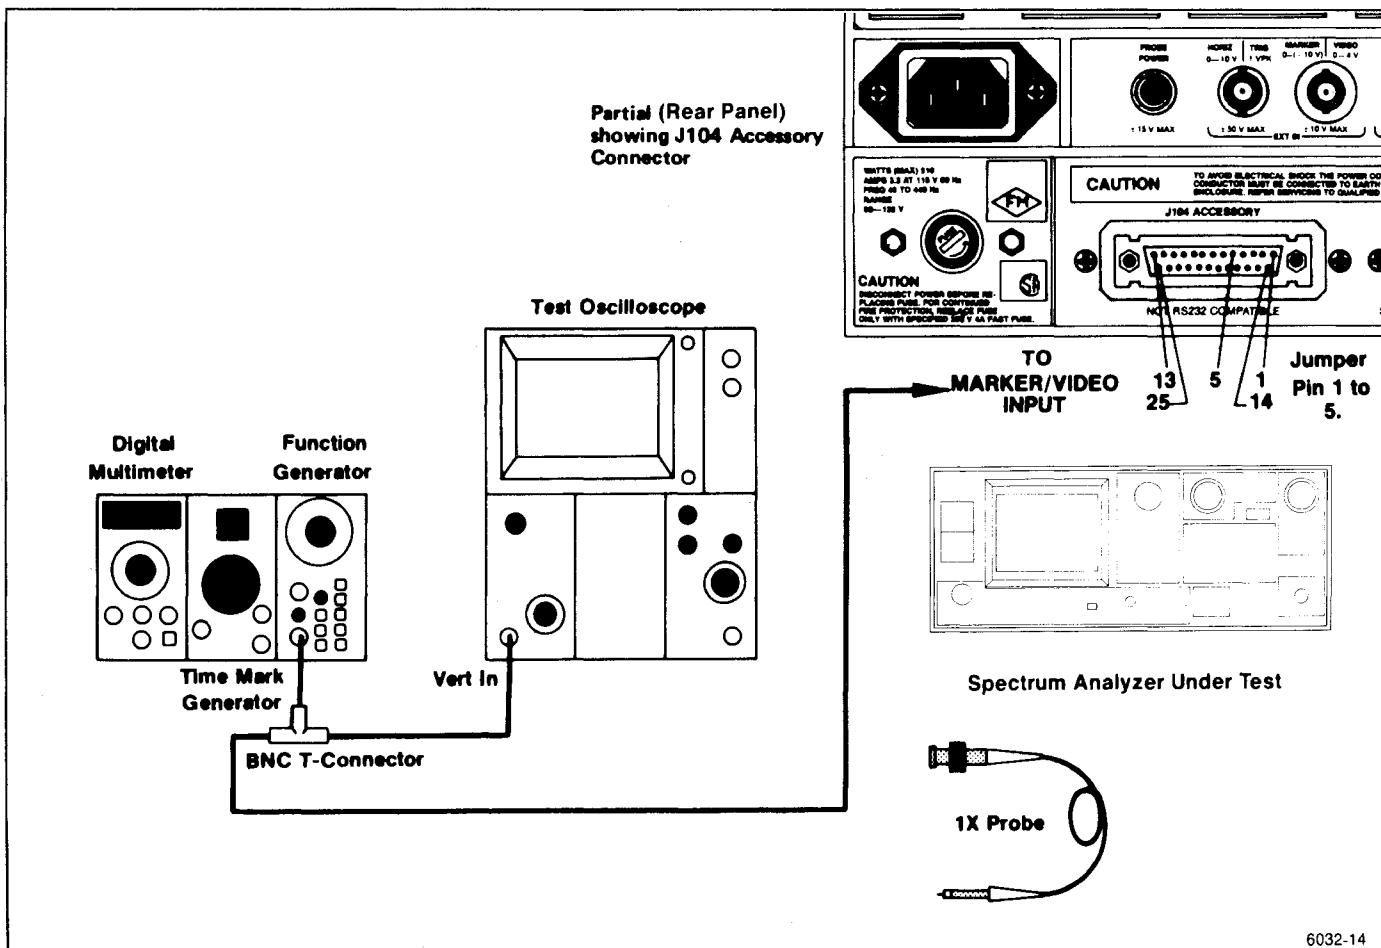

Figure 5-4. Test equipment setup for adjusting the Deflection Amplifier.
- a. Connect the test equipment as shown in Figure 5-4. Set the TIME/DIV to 1 ms. Position the trace on the bottom graticule line.